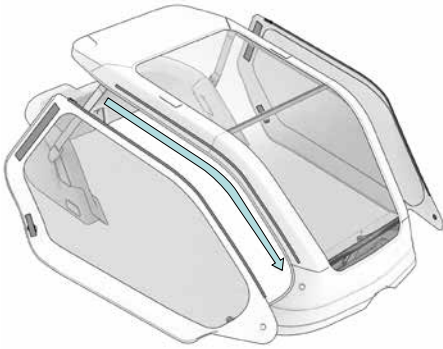

Fig. 42
Pull the zippers of the side panels ② and ④ closed toward the front (Fig. 42).